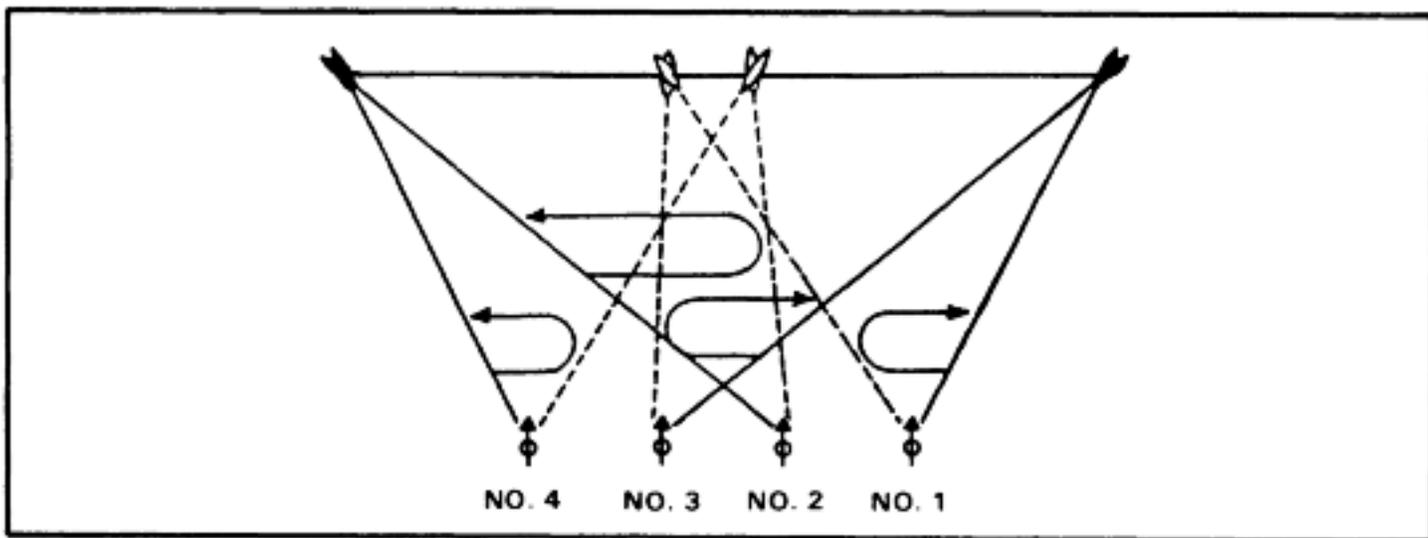

Figure 6-13. Four MK 19s, target 100 to 200 mils in width.
- Each pair of MK 19s engages the whole target (Figure 6-13).